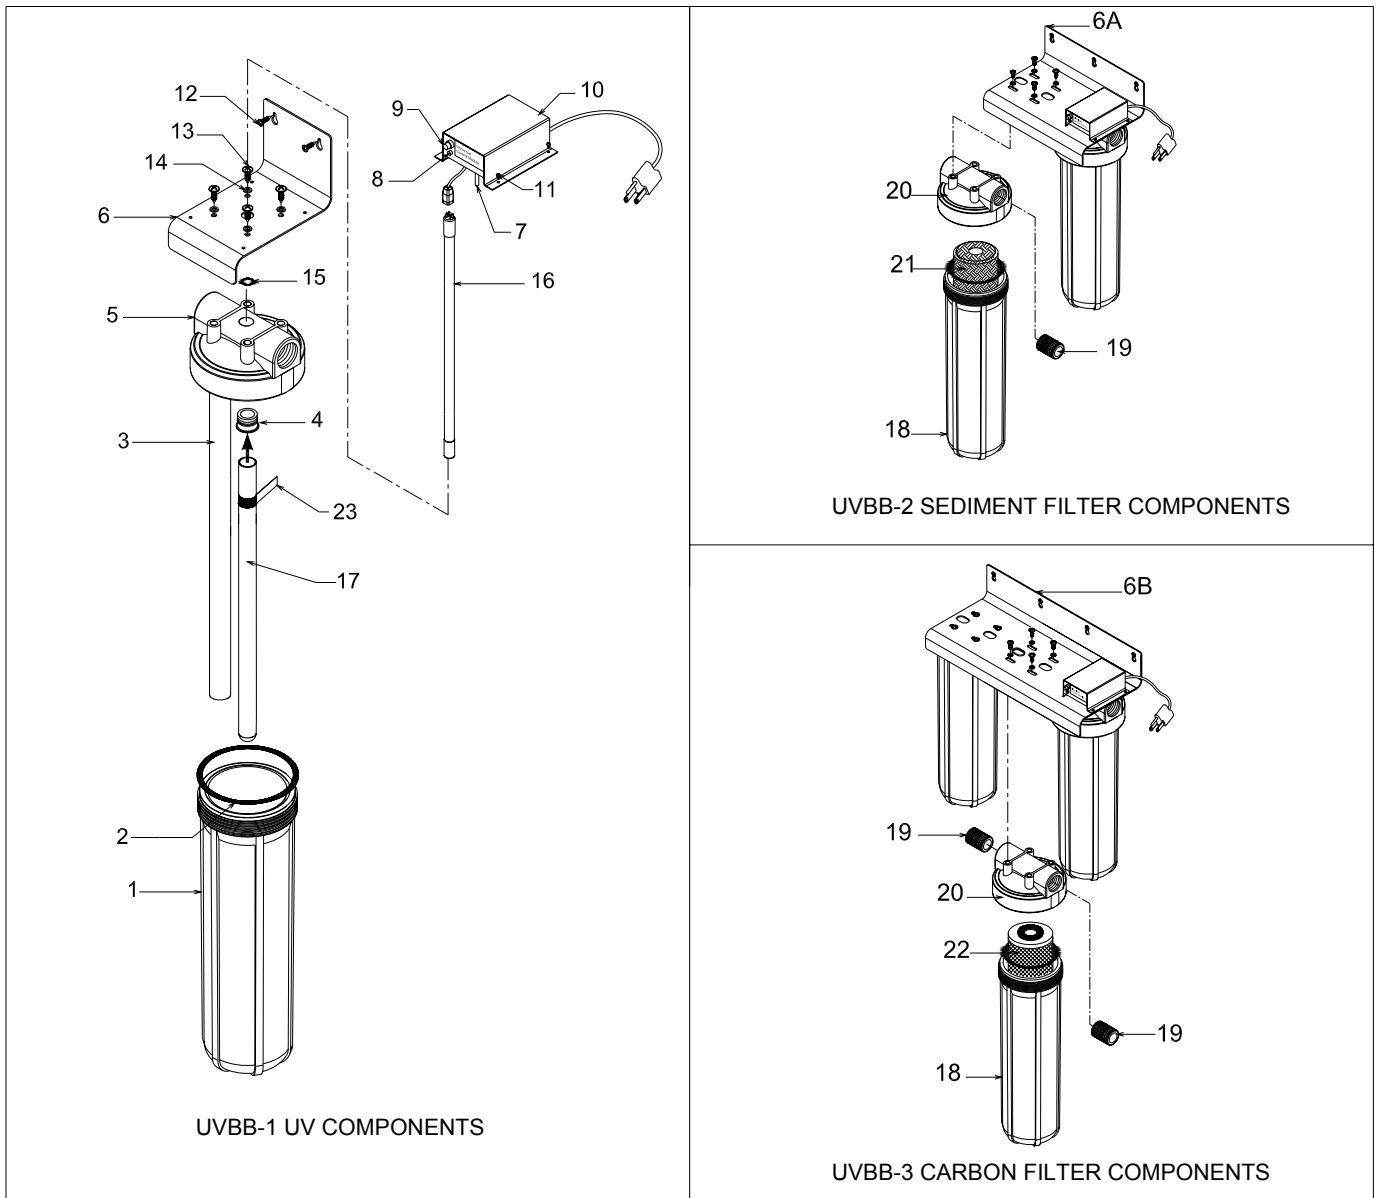

Figure 3 Exploded Schematic, PURA UVBB Series
NOTE: All Items refer to Figure 3.
1. **For UVBB-2 and UVBB-3 Models only:** Remove Sump (Item 18) from Filter Head (Item 20). Install Filters (Items 21 and 22) as shown in Figure 3. Install sump onto filter head.
CAUTION: Verify that inlet and outlet ports are connected to appropriate inlet/outlet pipes (see Figure 3).